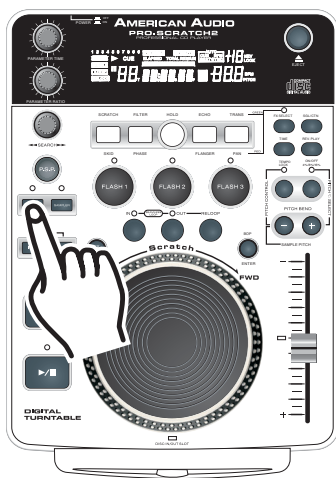

Figure 39
Adjusting the PITCH SLIDER'S RANGE (33): You may change the PITCH SLIDER'S (33) operating range at any time. To change the operating range be sure the pitch function is turned on, see figure 39. The pitch percentage can be changed between +/-4%, +/-8%, +/-16%, and +/- 100%. 4% will allow the least amount of pitch manipulation and 100% will allow the most amount of pitch manipulation. To adjust the different values, press and hold down the PITCH ON/OFF BUTTON (26) and Tap on the + PITCH BEND BUTTON (28) until your desired value is reached. The LED above the PITCH BUTTON (26); glowing red for 4%, glowing green for 8%, glowing orange for 16% or flashing green for 100%. Note, the pitch percentage must be activated to get a LED reading.